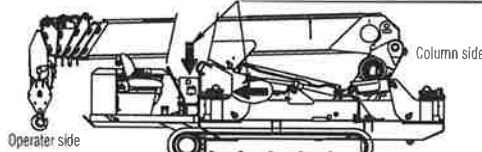

Fig.1 Covers to be removed
- 1.Remove covers at 2 places as illustrated in the figure 1.